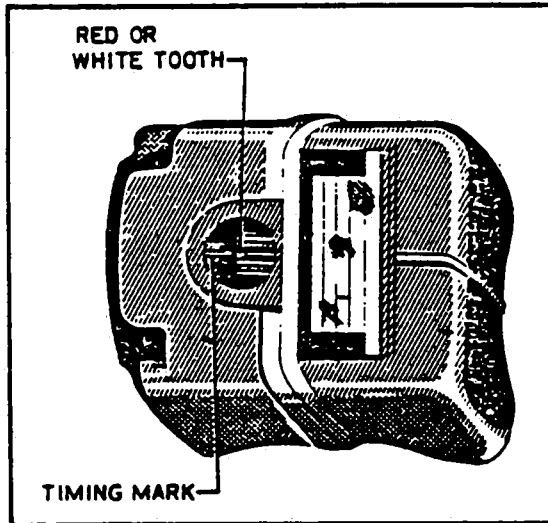

Figure 8-12. Magneto Timing Marks
c. Rotate coupling from neutral in a left hand direction 10 degrees. Appearing through timing hole, when the white or red tooth aligns with the white line of the distributor block the magneto is set at "E" gap. (Refer to Figure 8-12.) Alignment may not vary over  $\pm 4$  degrees.
c. Rotate the drive gear on the magneto until the chamfered tooth on the distributor gear inside the magneto aligns with the white pointer as seen through the inspection hole in the magneto housing. Refer to Figure 8-12.